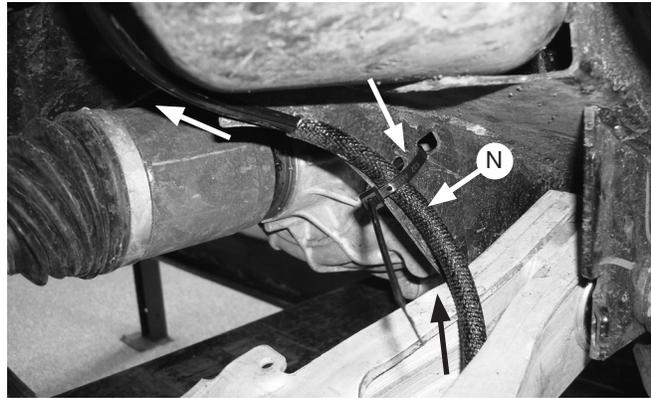

Fig. 7
7. For the driver's (left) side, slide the air line heat shield (N) over the air line and locate it where the air line exits the lower control arm (fig. 7). Attach the air line to the crossmember, leaving slack for the suspension articulation, using a zip tie as shown. Route the air line up over the top of the crossmember and to the center of the vehicle.